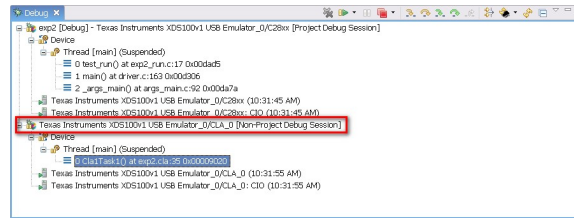

Figure 4.6: CLA Debug Session
- (a) Click on the CLA debug session (highlighted in Fig. 4.6)